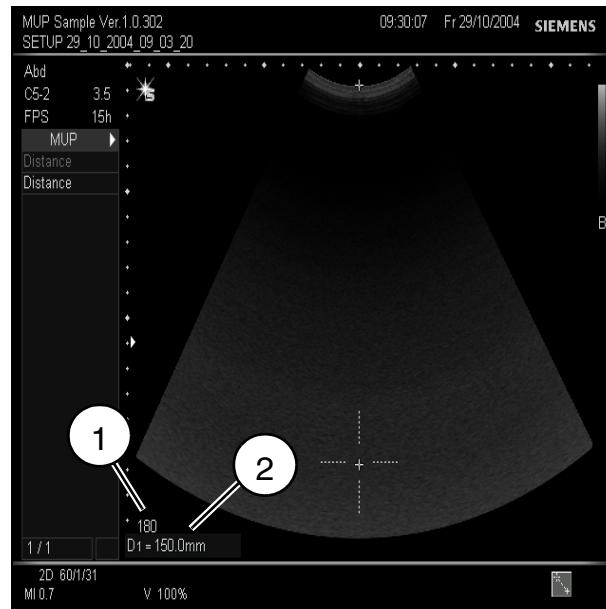

Fig. 4
- Move to the center of the crosshair with the trackball. A value of $151\text{ mm} \pm 1\text{ mm}$ must appear in the display (2/Fig. 4).